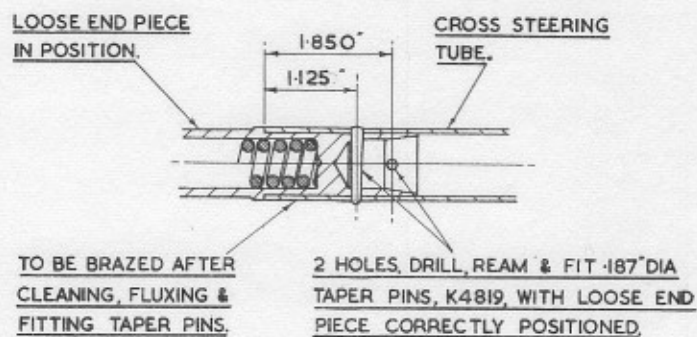

FIG. 2.
- a) Thoroughly clean the inside of the tube and the loose end piece and apply flux as necessary to both parts and insert the end piece into the tube as far as it will go. With the set portion of the tube facing downwards, rotate the end piece until the two grooves in it for the clamping bolts are in line (parallel) with the two similar grooves on the opposite end of the tube. With the end piece in this position, drill and ream for the two taper pins (K-4819) as detailed on Fig. 2, (The taper pins have a taper of 1 in 48 on dia.), and braze the end piece to the tube, using a coal gas flame or a large paraffin blow lamp.
- (vii) Place the steering joint nut (9) in position and refit its retaining ring (3). Re-assemble all remaining parts to the tube and split pin the three $\frac{1}{4}$ " nuts and check the steering joint nut for tightness.